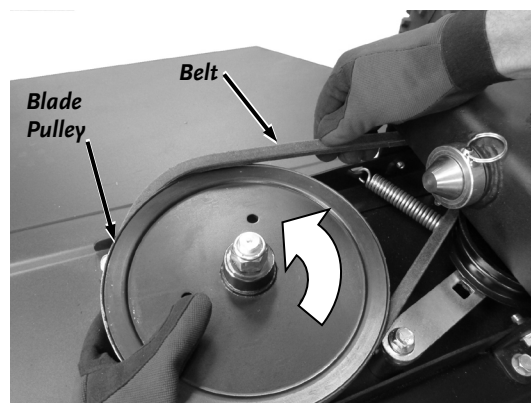

Figure 28
2. Turn the Belt Pulley with one hand while using the other hand to work the belt out of the Pulley groove (**Figure 28**).